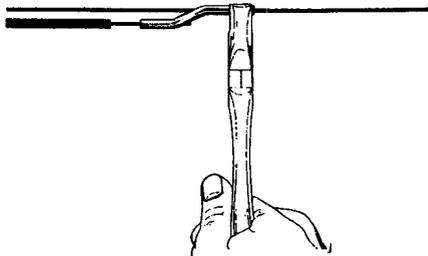

FIGURE 16. Closing Split Sleeve on Line Wire.
- d. Wrap the bridle wire around the line wire one and one-half turns. See Figure 14. Clean the line wire thoroughly with abrasive cloth. Place the split sleeve on the line wire and close the split end of the sleeve down on the line wire throughout its length by pressing with the side cutting pliers. See Figure 16.